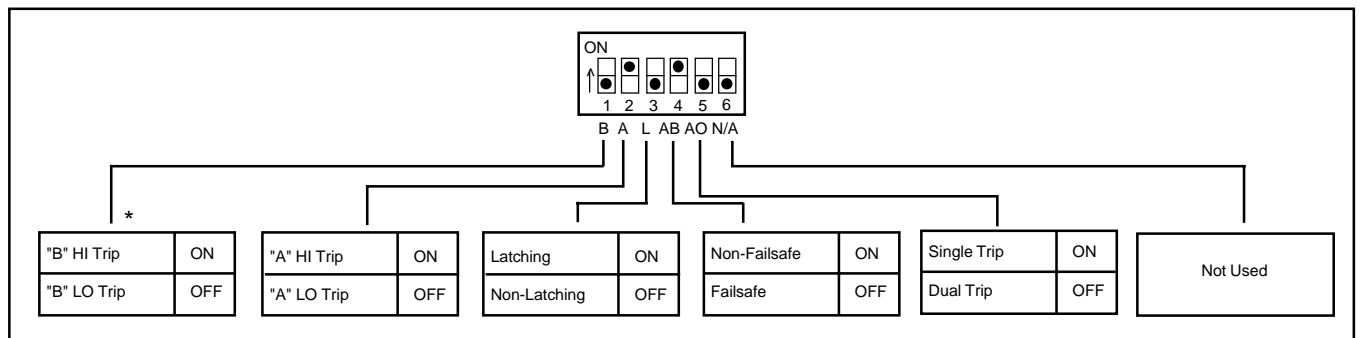

Figure 5: Mode Selection
- Configure the Mode Selector for the required function. See Figure 5.